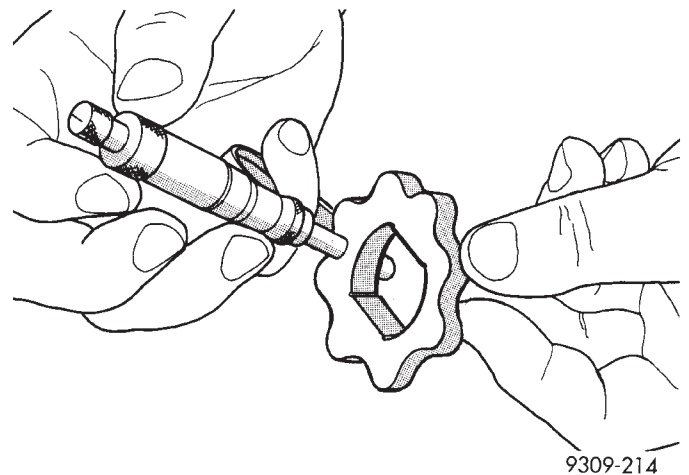

Fig. 102 Measuring Inner Rotor Thickness
(4) If inner rotor measures 9.40 mm (0.370 in.) or less replace inner rotor (Fig. 102).